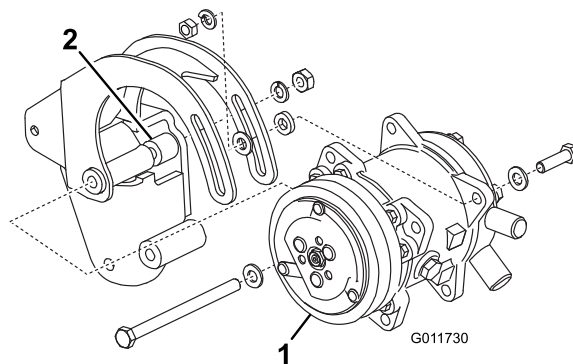

Figure 5
19. Loosely mount the compressor (Figure 5) to the pivot holes in the bracket with a spacer, M10-1.50 x 140 mm bolt, spring lockwasher and nut. Position the spacer between the compressor and the bracket as shown in Figure 5.
21. Loosely mount each end of the compressor (Figure 5) to a slot in the bracket with a 1-3/8-16 x 3/8" bolt, (2) flat washers, spacer, lockwasher and nut. Position the fasteners as shown in Figure 5.